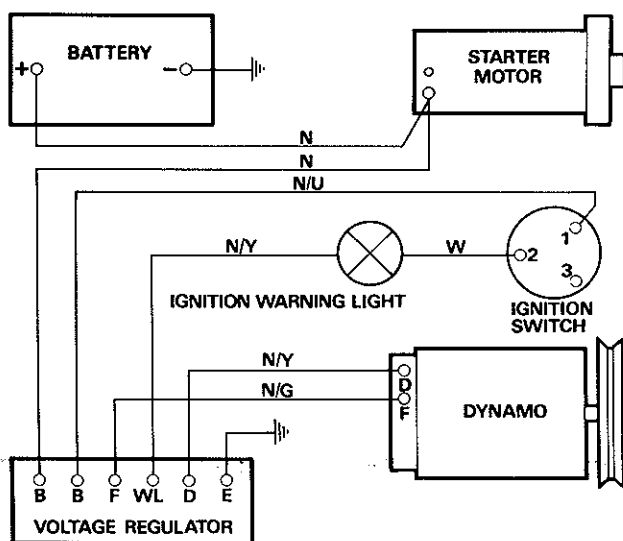

Fig. 1
1. The dynamo, in conjunction with the voltage regulator, supplies the power for charging the battery. With the ignition switch in the on position, a warning light next to the switch goes out, to signify that the output from the dynamo is sufficient to charge the battery, i.e. when the output voltage is higher than that of the battery. The charging circuit is shown in fig. 1.